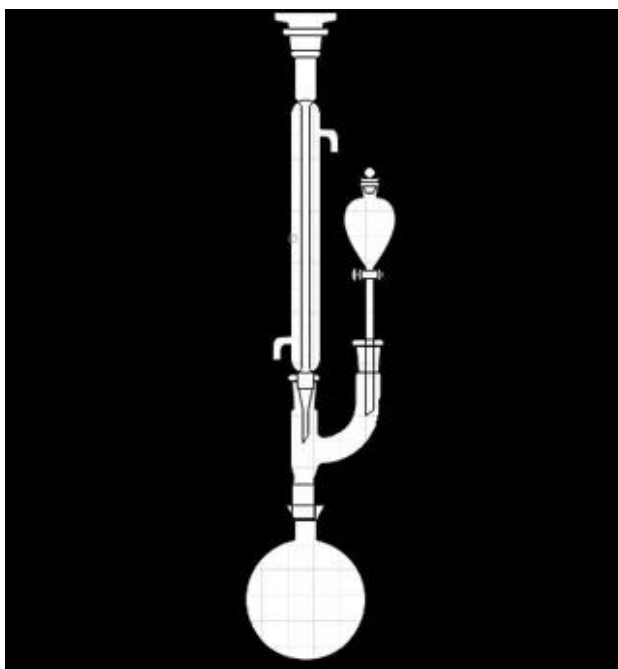

Figure 16.1. Grignard reaction setup
3. Secure the round-bottom flask to a retort stand, set it on magnetic-stirring hot plate. Add a magnetic stirring bar to the 200-mL round-bottom flask . Attach the Claisen adapter and mount the condenser as shown in Figure 16.1. Start the water flow through the condenser.
5. Insert the separatory funnel containing your bromobenzene solution into the side arm of the Claisen adapter (Figure 16.1). Then deliver about 10 mL of this solution into the 200 mL round-bottom flask—already charged with magnesium turnings and a magnetic stir bar—to form a slurry.